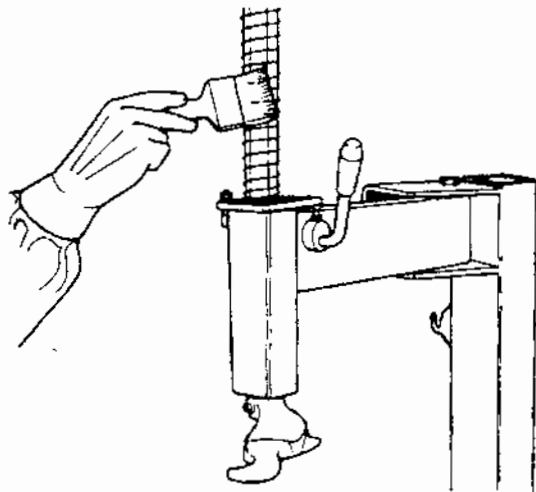

Fig.27
A. Periodically clean the vertical hexagonal rod with nonflammable liquid detergent. After this immediately lubricate with a light lubricating oil (Fig.27).